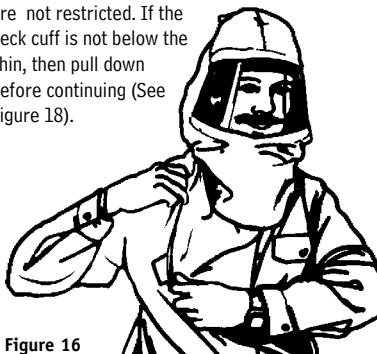

Figure 16
- Tuck inner bib of hood into shirt or protective clothing if using hood with inner bib (see Figure 16).
- Tuck inner bib of hood into shirt or protective clothing (see Figure 16).